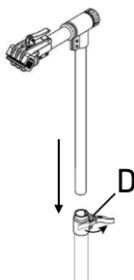

Fig. 4
4. Pull open the lever on the middle bracket (D) and insert the top shaft into the bottom shaft (Fig. 4).